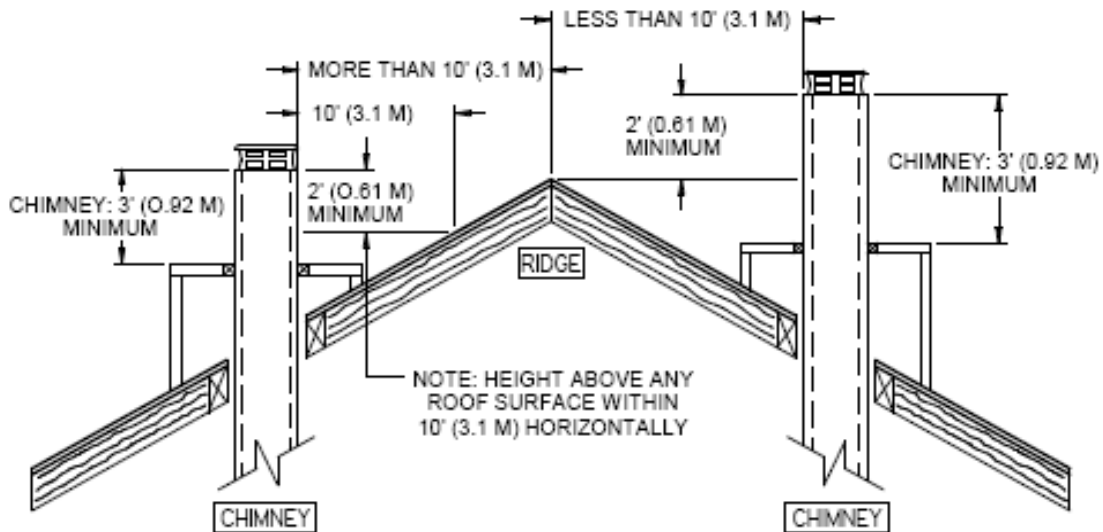

Figure 28a
12. When you build a chase enclosure for chimney sections above the roof, the chimney must extend at least 3 ft. (92 cm) above the chase enclosure and at least 2 ft. (61 cm) higher than any wall, roof or building within 10 ft. (3.1 m) of it. See **Figure 28a** and **28b** to determine the configuration that applies to your roof (flat or sloped roof and the distance between the chimney and the highest point of the roof and/or the nearest chimney).